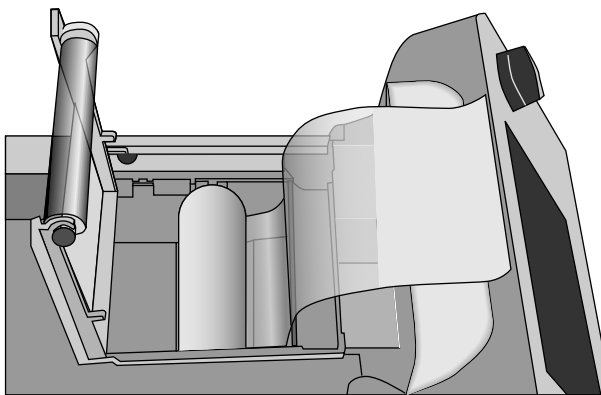

Figure 12-3. Inserting the new roll
- Insert the spindle in the new roll and place the roll into the device as shown in Figure 12-3.